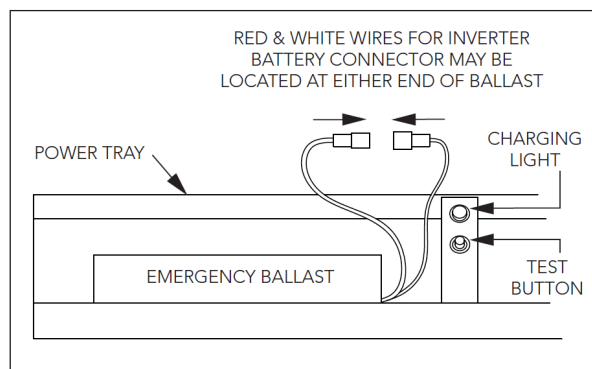

Figure 11
1. The emergency ballast has an inverter battery connector which is disconnected for shipment. It must be reconnected only after installation of fixture and AC power is supplied. To access the battery connector, remove the ballast cover with the charging indicator and test switch mounted behind it. The 1x4 fixture center cover can be removed as indicated above. The 2x2 and 2x4 fixtures must have the center cover removed as described above and a side ballast cover removed also. Remove (4) screws on the side ballast cover and find the battery connector leads on the emergency ballast (the red and white wires with mating connectors) and snap them together. Reassemble the covers. (See Figure 11).